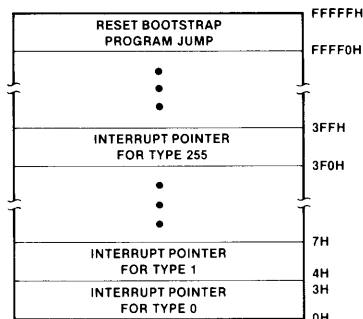

**Figure 1. Memory Organization**
The processor provides a 20-bit address to memory which locates the byte being referenced. The memory is logically organized as a linear array of 1 million bytes, addressed as 00000(H) to FFFFF(H). The memory can be further logically divided into code, data, alternate data, and stack segments of up to 64K bytes each, with each segment falling on 16-byte boundaries. (See Figure 1.)